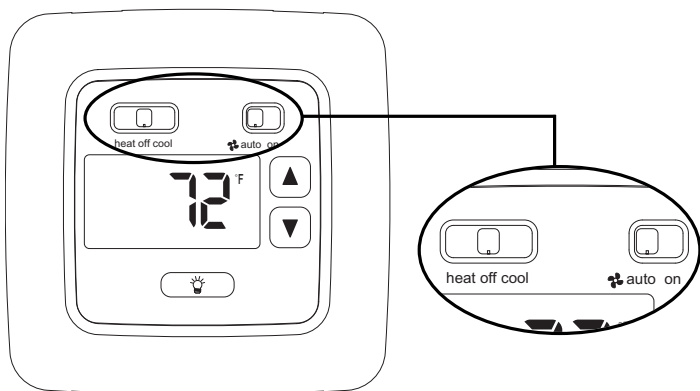

Figure 2
2. Place HEAT-OFF-COOL in OFF position (Figure 2).
3. Place  AUTO-ON switch into AUTO position (Figure 2).